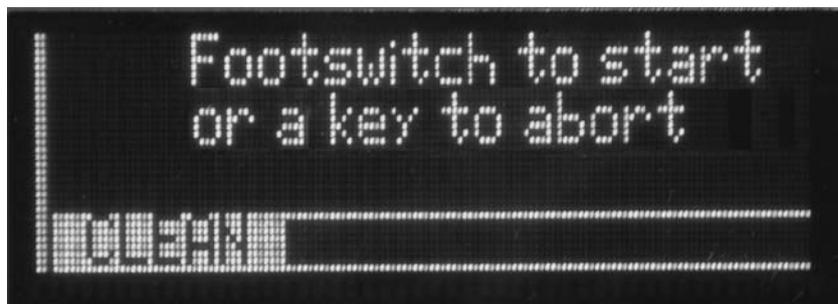

Fig. 9
**Device in the CLEAN mode: Fig. 9** - The device has a **CLEAN** function, which can be used to carry out a cleaning cycle of the hydraulic circuit. This function **must** be carried out after using the device, before cleaning, disinfecting and sterilising all the parts (**See Section 06.0**).